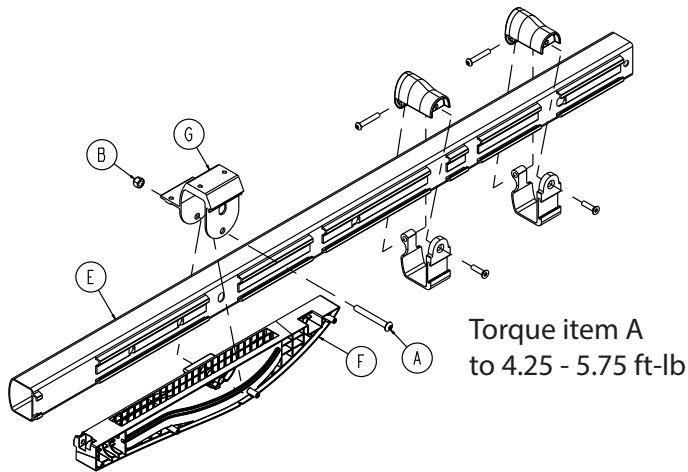

Figure 117 – Remove the slider block
8. Using a T30 Torx driver and a 1/2" combination wrench, remove the button head cap screw (A) that secures the patient left slider block (F) to the outer rail (E) (Figure 117). Save the screw and slider block.